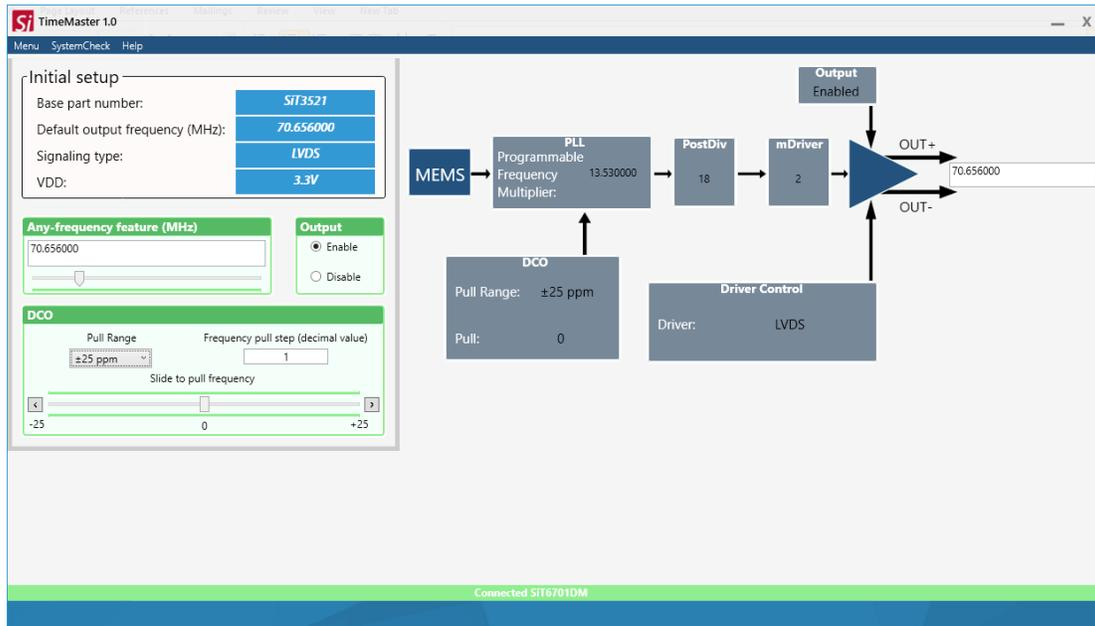

Figure 12: Startup GUI appearance when board is connected
2. **Start with the board connected to the PC.** Software will ask to enter device options on startup (see Figure 12). Similar window is shown for the previous case after the board is connected and system initialization is launched.
Once all options are selected, the GUI will start the main window showing the board connection status (see Figure 12). The main GUI shows simplified block diagram of the device with frequency programming, DCO, and output enable blocks accessible by the user. Frequency and pull range values are displayed on the startup window and represent the current state of the DUT.